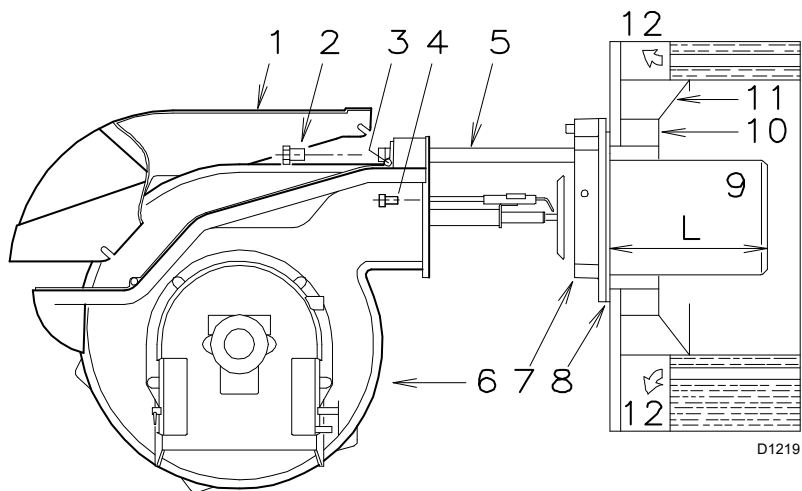

Fig. 8
For boilers with front flue passes 12)(Fig. 8) or flame inversion chambers, protective insulation material 10) must be inserted between the boiler refractory 11) and the blast tube 9).
Disassemble the blast tube 9)(Fig. 8) from the burner 6) by proceeding as follows:
- secure flange 7)(Fig. 8) to the boiler plate inserting the supplied gasket 8).
- pull back the burner on its slide bars as shown in Fig. 8;